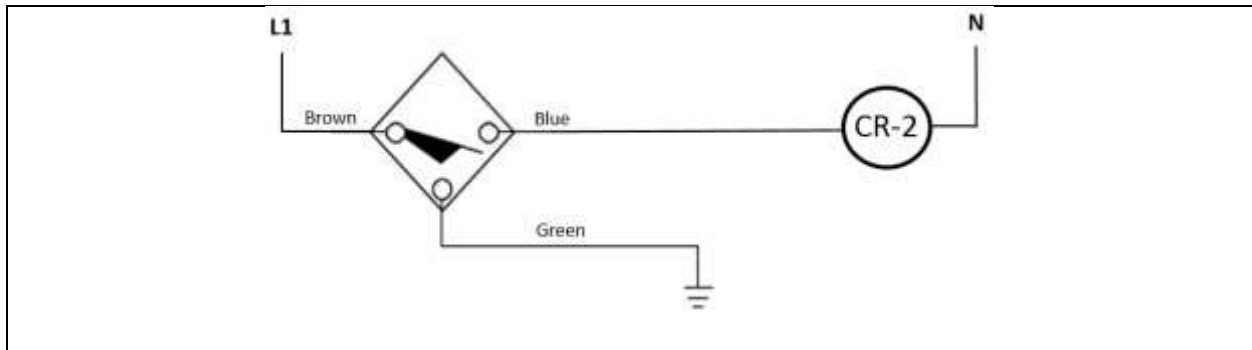

Figure 3: wiring diagram for the AC proximity switch
4. Wire the circuit from Figure 3 on the NSCC wiring boards. Notice use the coil of the ice cube relay marked as CR-2 on the DIN rail of the wiring board. See Figure 4 for the terminal number marking on the octal base mounted on the DIN rail.